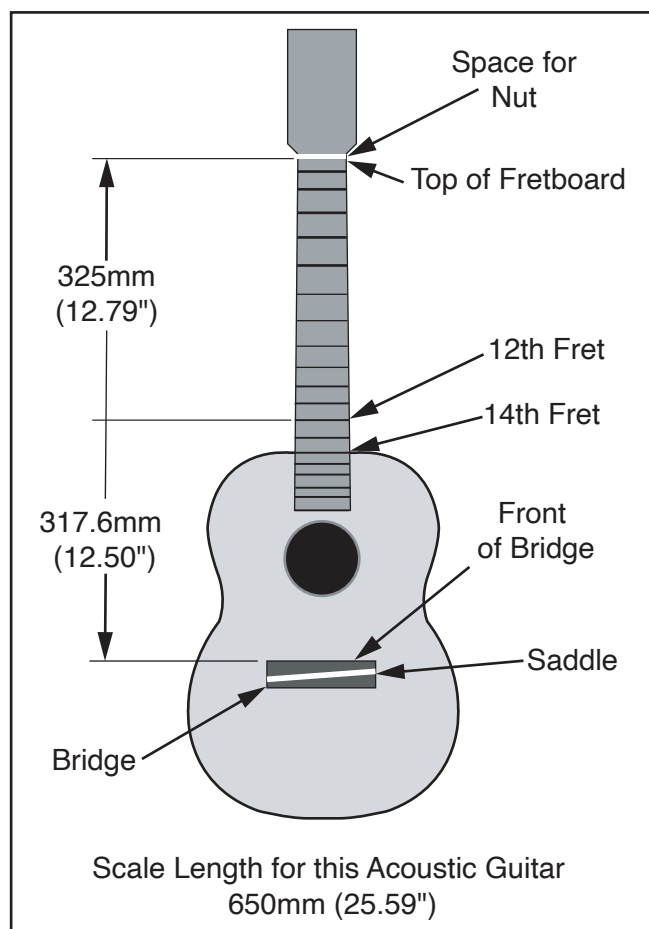

Figure 15. Example of determining scale length and bridge positioning.
1. Measure from top of fretboard to center of 12th fret. Measurement should be 325mm (12.79") (see **Figure 15**).
3. Position bridge so front will be 317.6mm (12.5") from center of 12th fret (see **Figure 15**).